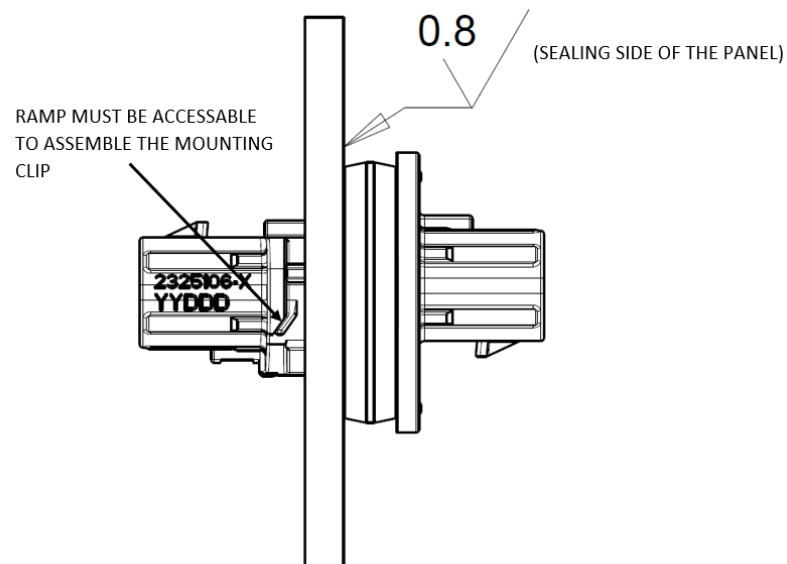

Figure 23
- i. Place Header or Adapter through the bulkhead panel or enclosure. Ensure that the assembly is pushed far enough through the panel to allow for ramp engagement with the clip as shown in Figure 23.